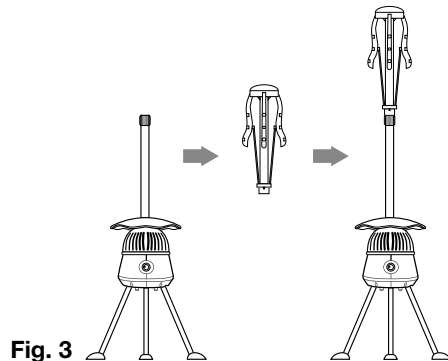

Fig. 3
3. Screw the (E) Clothes Hanger onto the (F) Lower Tube until tight (see Fig. 3).